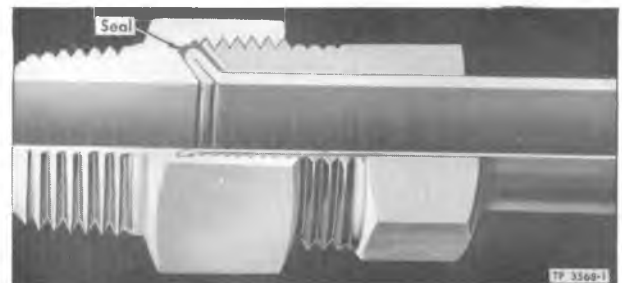

Figure 7—Vacuum Tubing Connection Seal
4. Remove line having leaking connection. Slide tube nut back on tube and remove all particles of seal ring from tube and from inside of nut. Slip new seal ring over tube end. Insert tube into fitting and seat solidly. Slide seal ring (do not roll) into fitting (fig. 7). Thread tube nut into fitting and tighten slowly and firmly.